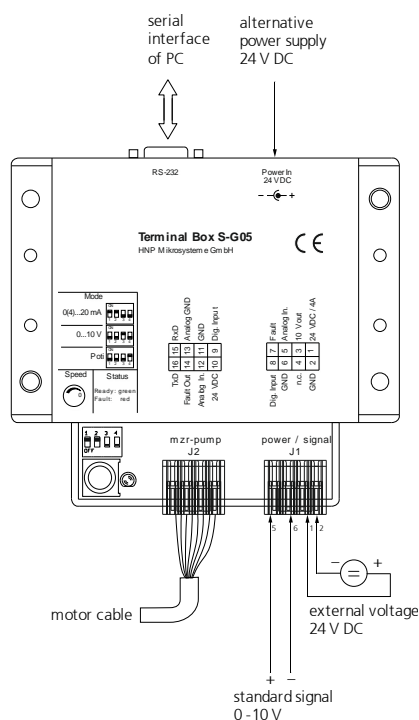

figure 16
4. Connect an external 0-10 V voltage supply to the terminal clamps »AnalogIn« and »GND« to the S-G05. (see figure 16)
4. Connect an external 0-10 V voltage supply to the terminal clamps »AnalogIn«, »10 V« and »GND« to the S-G05.(see figure 16)